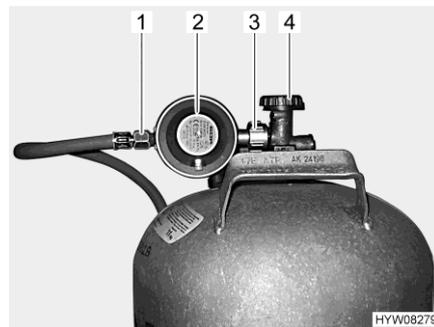

Fig. 97 Gas bottle connection
- Close the regulator tap (Fig. 97,4) on the gas bottle. Pay attention to the direction of the arrow.
- Hold the gas pressure regulator (Fig. 97,2) and open the knurled nut (Fig. 97,3) (normally a left-hand thread).
- Remove the gas pressure regulator and the gas tube (Fig. 97,1) from the gas bottle.
- Position the gas pressure regulator (Fig. 97,2) with gas tube (Fig. 97,1) on the gas bottle and tighten the knurled nut (Fig. 97,3) (normally a left-hand thread). **Do not** tighten too firmly.